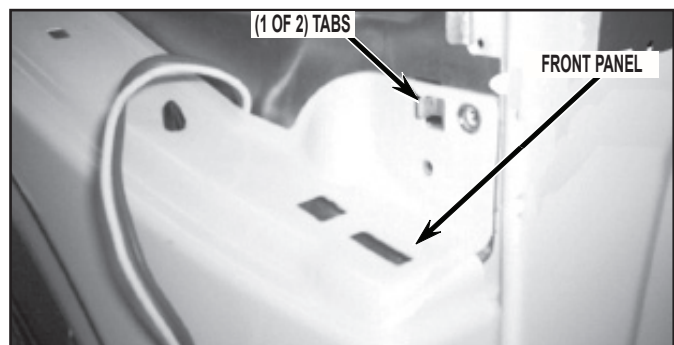

FIGURE 8
10. Remove front panel assembly from dryer by lifting front panel assembly off tabs (one each side). See *Figure 8*.